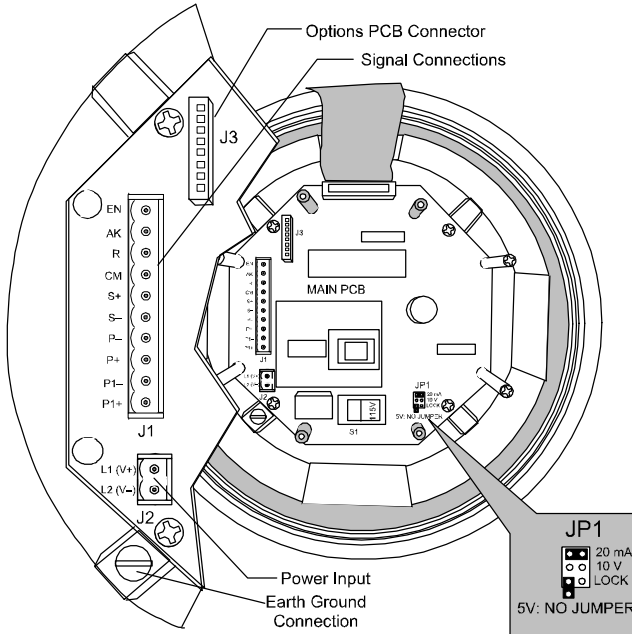
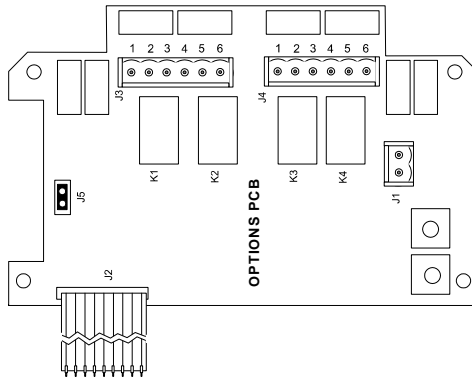

Figure 3. Connections and Jumper Diagram
Figure 4. Options Board Connectors and J5 Jumper Wiring Instructions
2. Loosen the two mounting screws on the right side of the Display Board (see Figure 3 on page 21). It is not necessary to remove the faceplate.
1. Slide the Display Board under the two screws on the right side of the Display Board (see Figure 3 on page 21).
Once the Display Board has been removed, switch S1 is visible. It is the large black component with a red slide switch on the top, located next to the transformer. For location see Figure 3, page 21.
Refer to Figure 3 and Figure 4 for connectors' location.
Connect power to terminals L2(V-) and L1(V+). Connect Earth Ground to screw terminal marked with Ground symbol on the enclosure's base (see Figure 3).
Signal connections are made to a 10 position connector J1 on the Main Board. This connector also includes connections for Enter, Acknowledgement, Reset Total, and Common. Refer to Figure 3 for location of J1.
Depending on the model number, the Options Board may contain 2 or 4 relays and an isolated 4-20 mA output transmitter. Relay connections are made to removable screw terminal connectors located at J3 and J4 on the Option Board. Connections for the isolated 4-20 mA output option are made to J1 on the Options Board. Refer to Figure 4, page 22 for connectors' location.